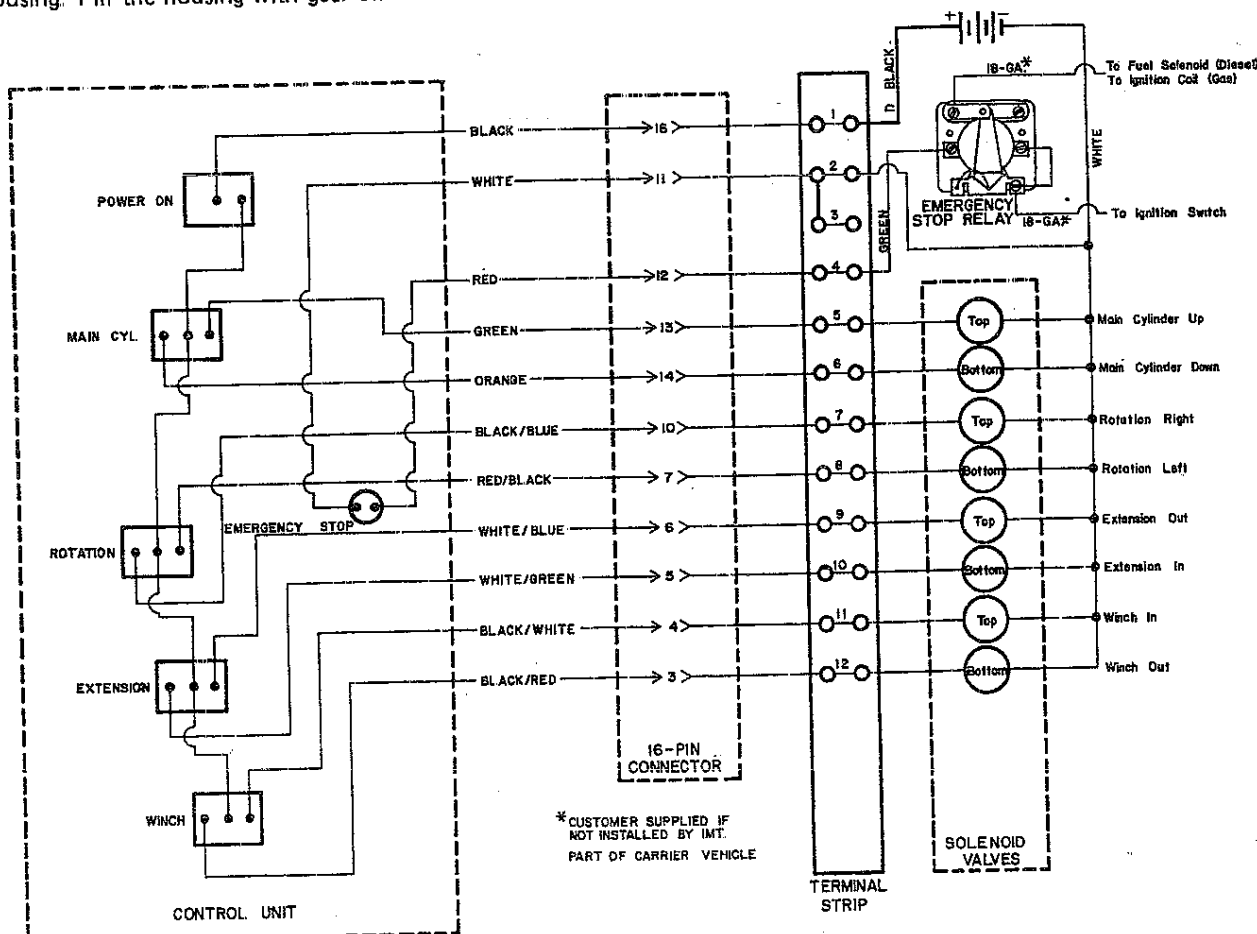

Figure E-7. Electrical Wiring Diagram
- B. Check for loose wires or broken connections in the terminal strip and control handle (refer to Figure E-7, Wiring Diagram)